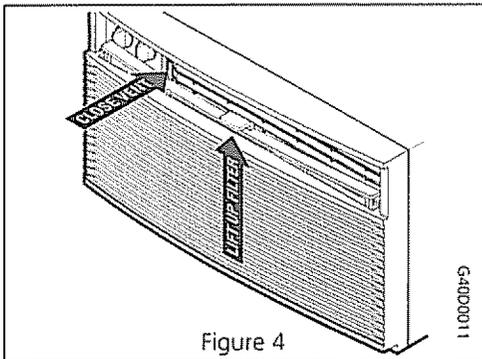

Figure 4
- On some models, push the vent control handle to the CLOSED position. Lift the filter straight up and out (Figure 4)